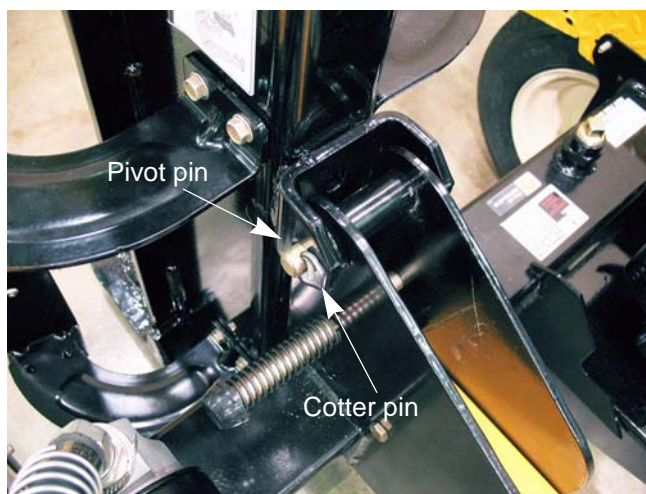

Figure 6.9
15. Remove the cotter pin from the pivot pin. See Figure 6.9.